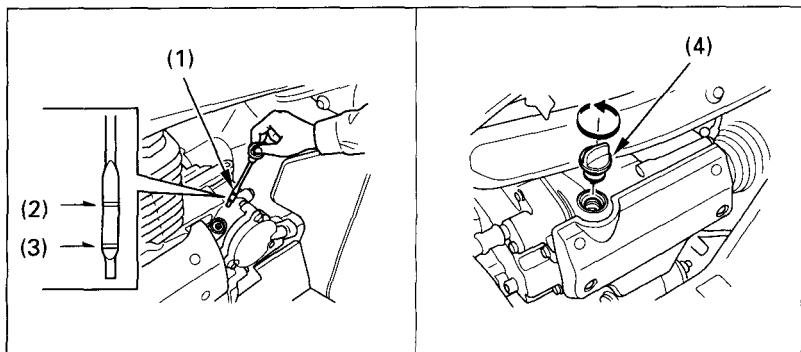

Fig. 4-10
4. After a few minutes, remove the dipstick (1) (Fig. 4-10) from the front crankcase cover and wipe it clean.
5. Insert the dipstick without screwing it in, then remove the dipstick and check the oil level. The oil level should be between the upper level mark (2) and the lower level mark (3) on the dipstick.
6. If required, remove the oil filler cap (4) from left side of the crankcase and add the specified oil into the filler cap hole, up to the upper level mark on the dipstick. Do not overfill.